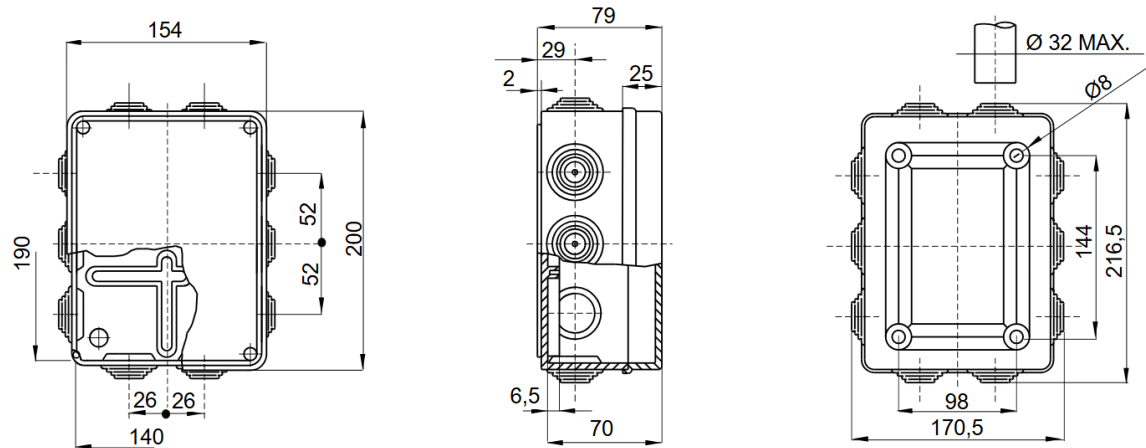

Figure 5: electric box (control device PCB) dimensions 154 x 200 x 80 mm
- Figure 5: Electric box dimensions